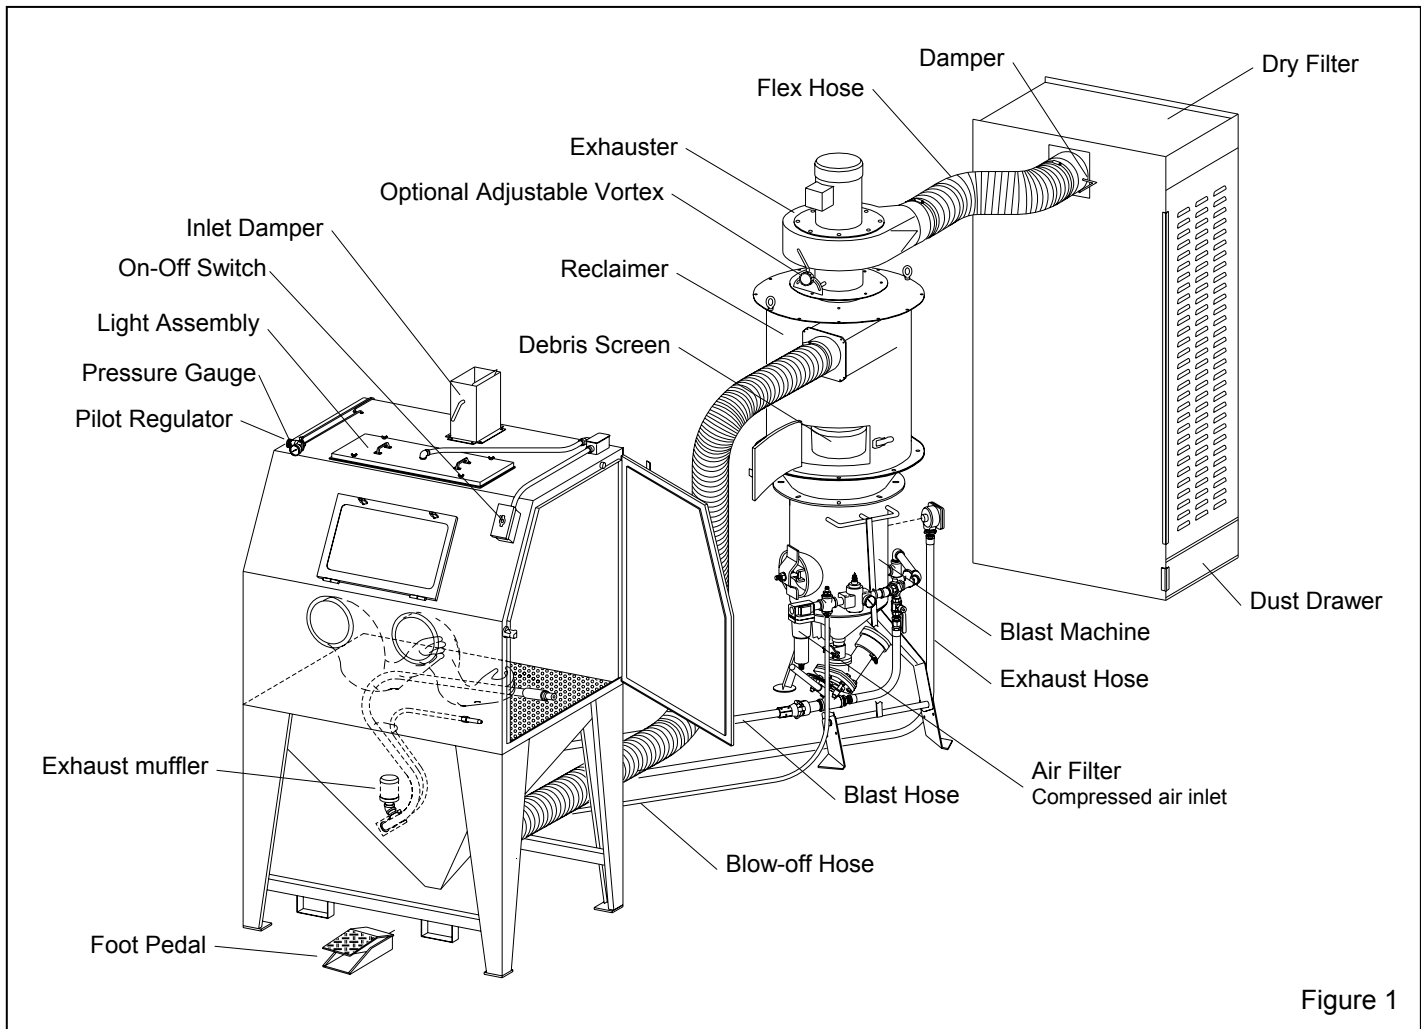
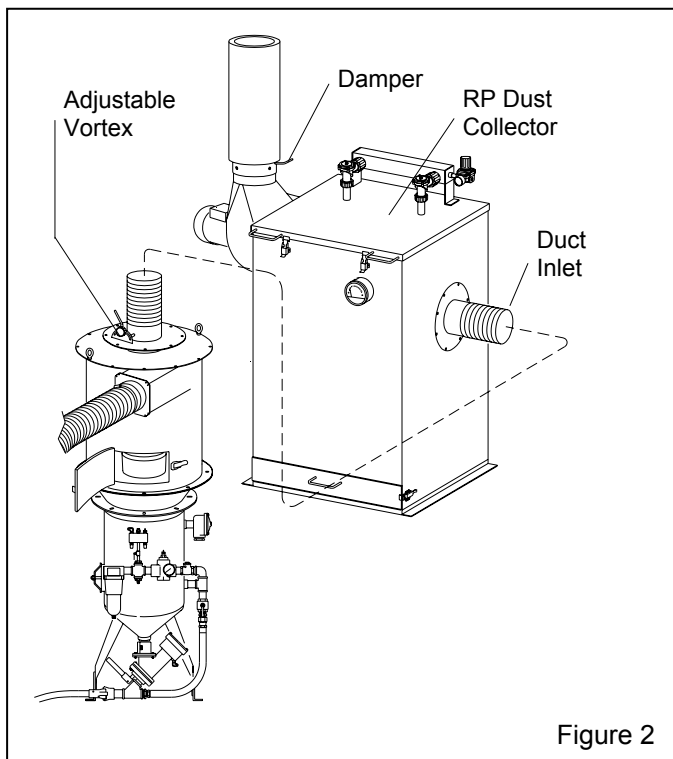
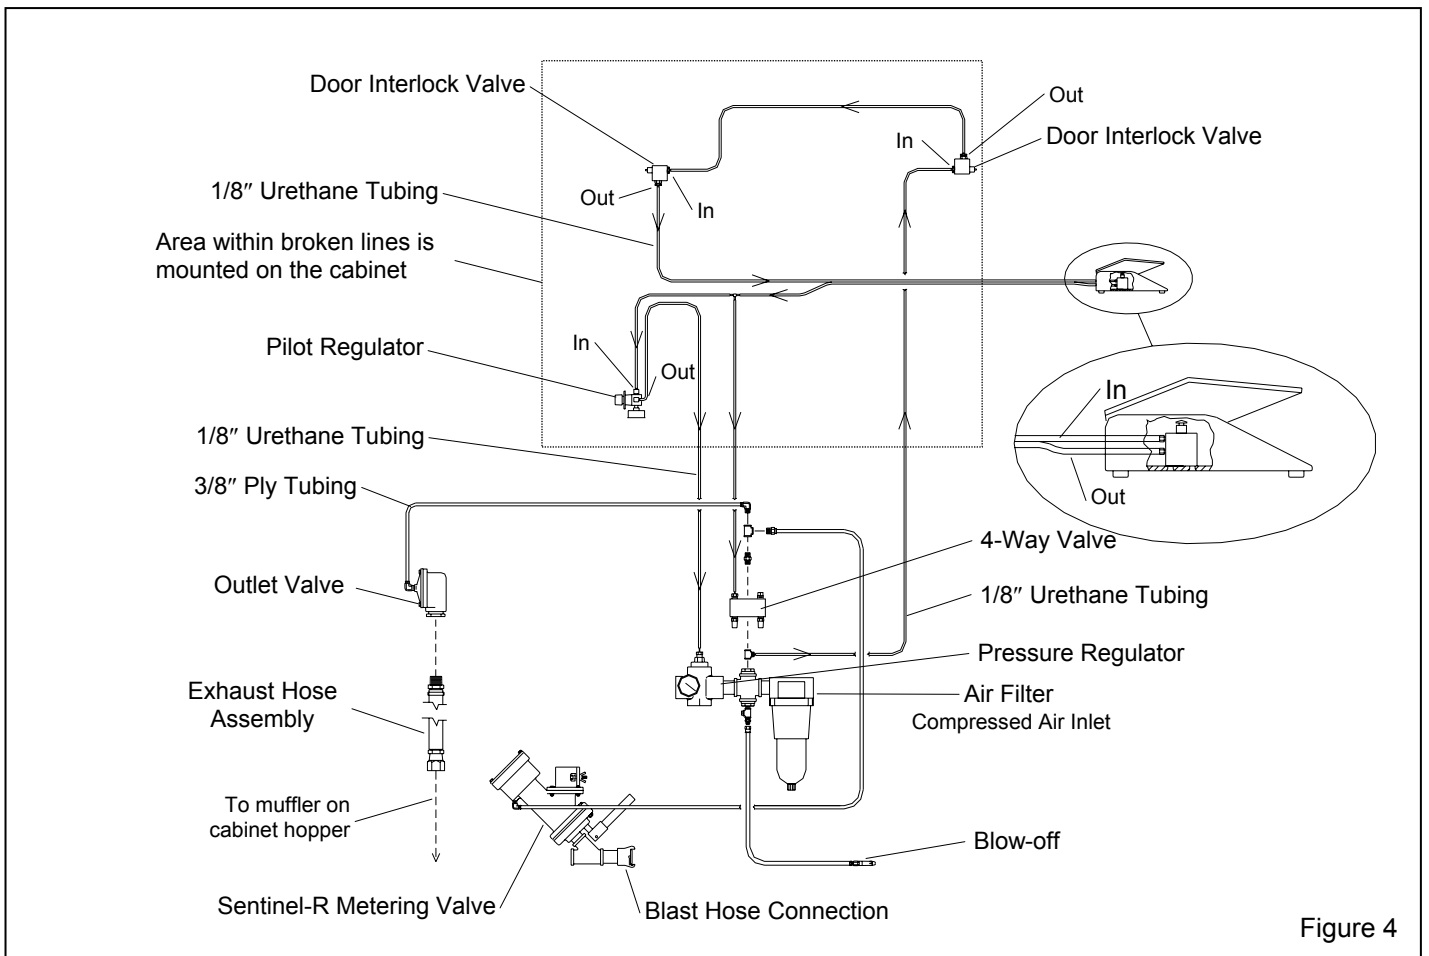

Figure 1
Figure 2
Figure 4
See Figure 1 for arrangement of components with a dry filter. Figure 2 shows the arrangement with a reverse-pulse dust collector.
**2.1.1** See Figure 1 (and Figure 2 for optional reverse-pulse collector) for the general arrangement and Figure 4 for the control line schematic. Select a location where compressed air and electrical service are available. The cabinet location must comply with OSHA and local safety codes. Allow for full access to all doors and service areas, and for efficient handling of large parts. Provide enough clearance in front of the dust collector to remove the dust drawer without tipping. Ideally, locate the blast machine directly behind the cabinet with the blast hose connection toward the cabinet. The reclaimer may be rotated on the blast machine to enable hose connections with as few bends as possible. Determine the best location, and position all units before final assembly.
**2.5.1** Attach the 1/2" blow-off hose coming from the cabinet hopper, to the compatible fitting between the air filter and regulator. See the schematic in Figure 4.
**2.8.1** Uncoil the 1/8" urethane control tubing. The end of each tubing is numbered 1, 2 or 3. Connect the tubing to the adaptor with the corresponding number on the pressure regulator, piping, and 4-way air valve. Check the schematic in Figure 4 to confirm the connections.